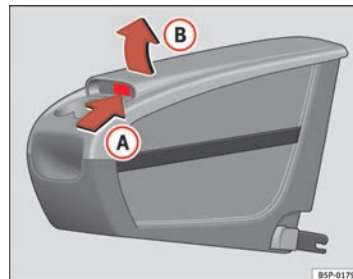

Fig. 115 Mobile storage compartment. Opening
- Lift the cover **(B)** at point **(A)** ⇒ page 151, fig. 115.